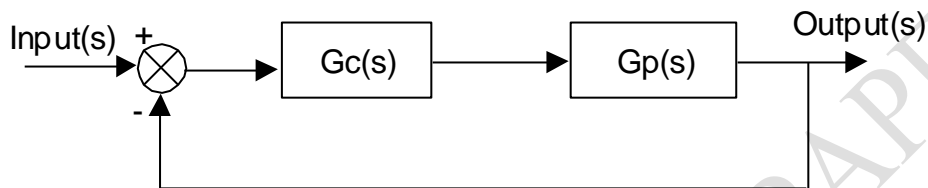

Figure Q4 A Mechatronic Control System
Q4 Figure Q4 shows a mechatronic control system, in which the
- (b) If a velocity feedback is introduced into the system of the Figure Q4, draw a block diagram with the velocity feedback and determine the transfer function for the whole system. **(7 marks)**